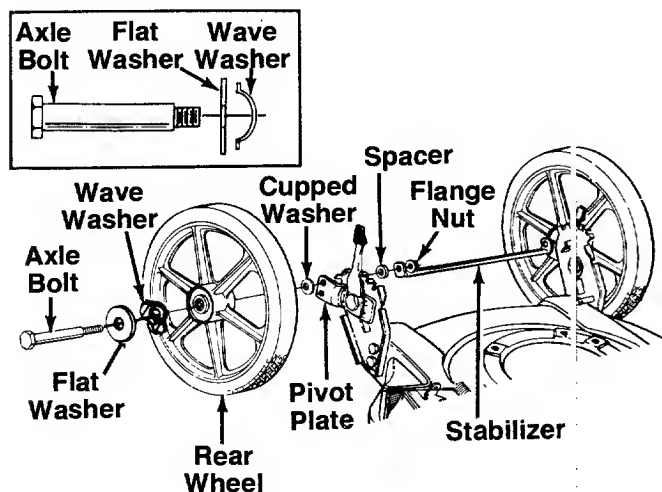

FIGURE 5B.
1. Place one flat washer 1/2" I.D. on rear axle bolt, then one wave washer (cupped side goes against the flat washer). See figure 5B.